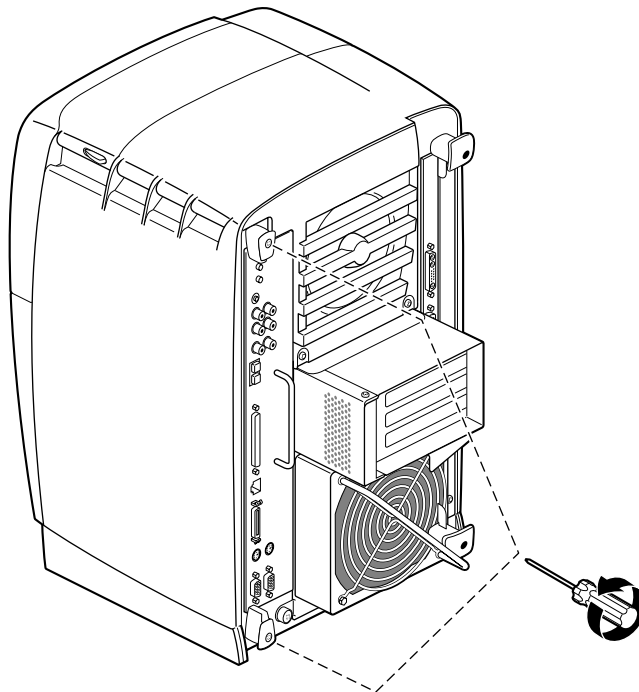

Figure 2-5 Removing the System Module Screws
2. Loosen the captive screws that hold the sliding handles to the OCTANE workstation. See Figure 2-5.